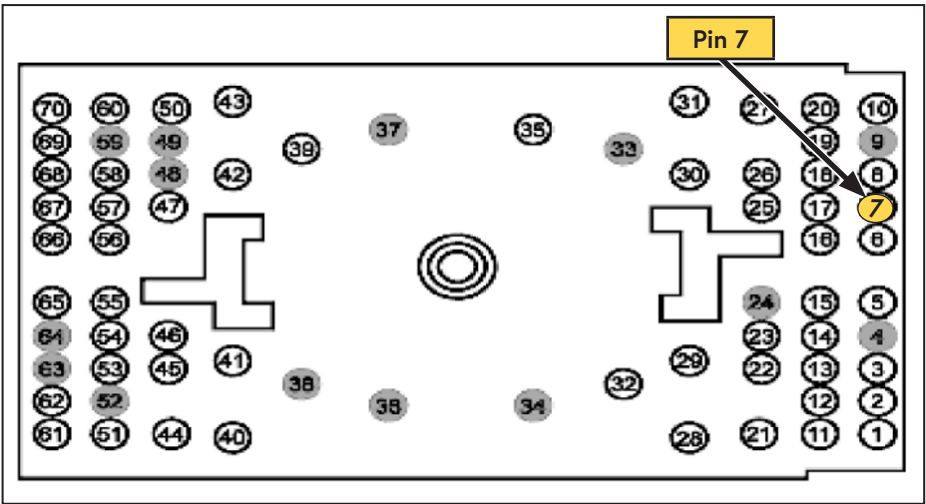
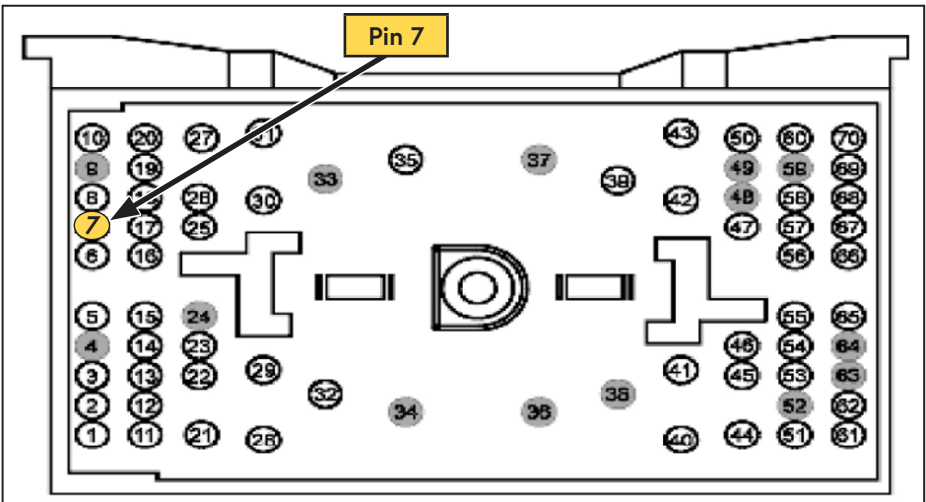

Figure 70 — Male Harness C210
Figure 71 — Female Harness C210
- Locate pin 7 of the C210 connector; it will be populated by a grey wire with a brown stripe (Figure 70, Figure 71).